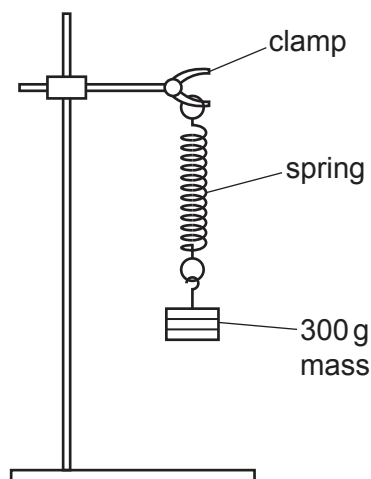

Fig. 1.1
- (ii) Attach the spring to the clamp and suspend the 300 g mass from the spring, as shown in Fig. 1.1.